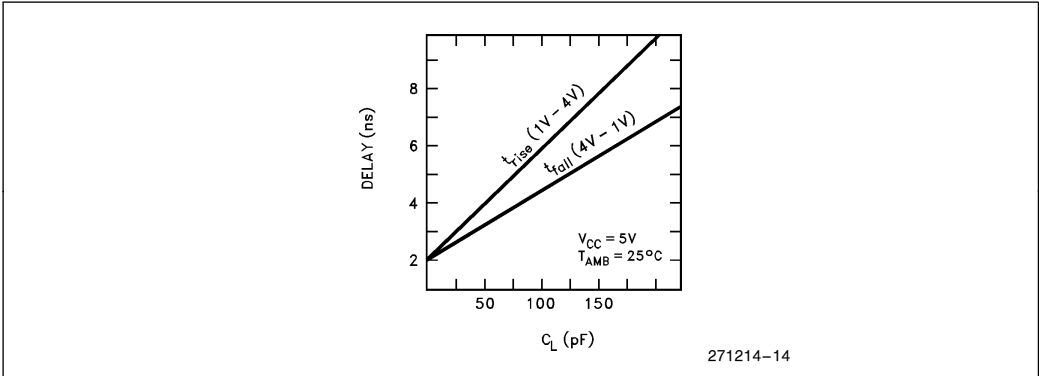

Figure 16
4. Specified for a 50 pF load, see Figure 16 for capacitive derating information.